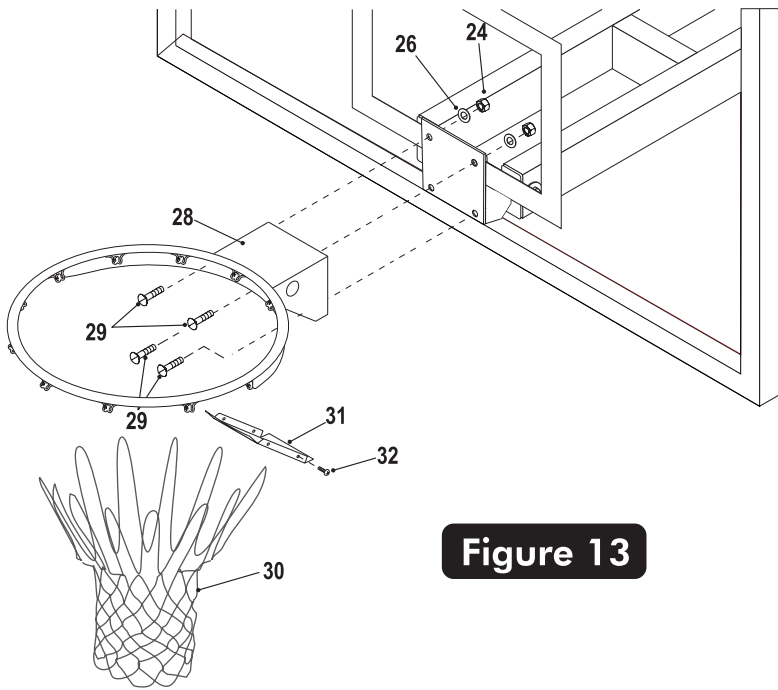

Figure 13
21. Mount Goal Assembly (#28) to Backboard as shown in Figure 13, using four bolts (#29), four washers (#26) and four nuts (#24). Tighten Fasteners but leave loose enough to level rim.